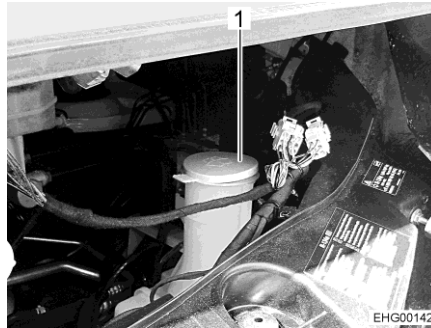

Fig. 40 Filler neck (washer fluid container)
- Remove the lid (Fig. 40,1) from the filler neck of the washer fluid container.
- Replace the cap (Fig. 40,1) of the filler neck of the washer fluid container.